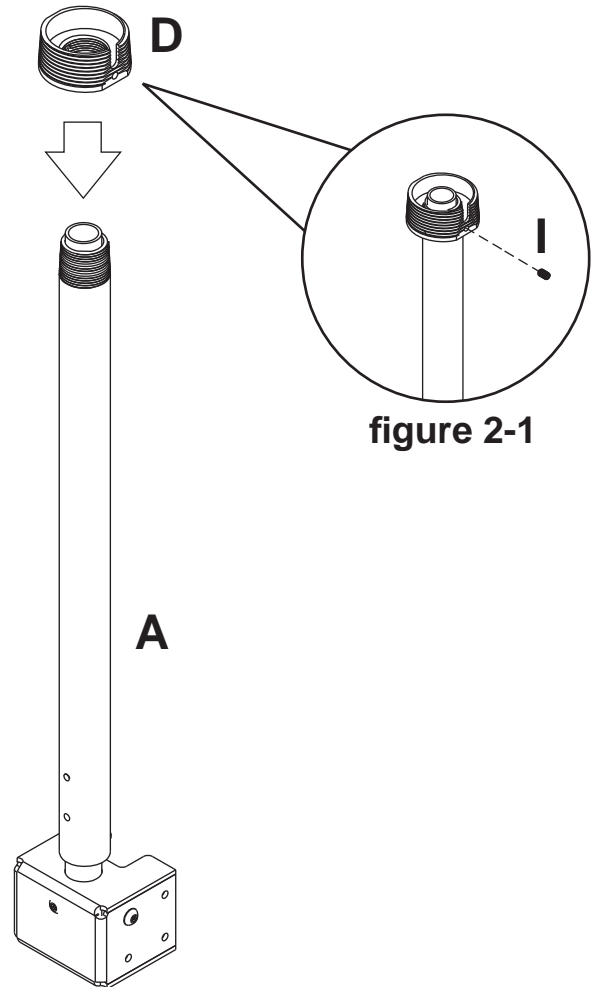

figure 2-1
- 2** Thread reducer (D) onto tube assembly (A) until tight. Insert set screw (I) into reducer as shown in figure 2-1. Tighten screw using hex wrench (J). **Note:** Set screw (I) is used to jam against the threads of tube assembly to prevent any excess movement.